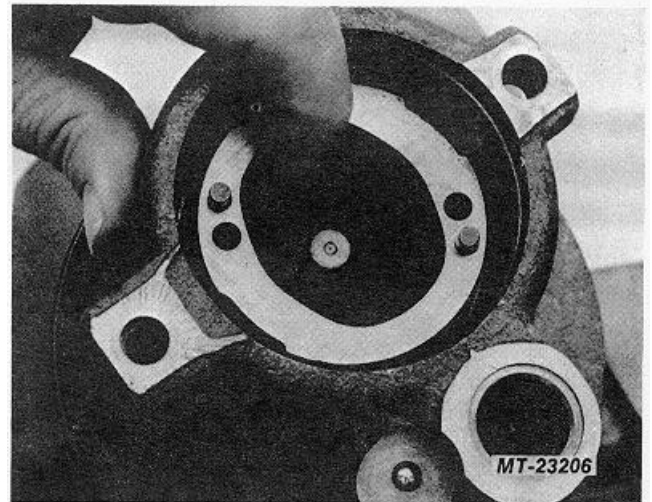

Fig. 27 Install Pump Ring
5. Guide pump ring onto dowel pins and seat against thrust plate (Arrows on ring up) (Fig. 27).